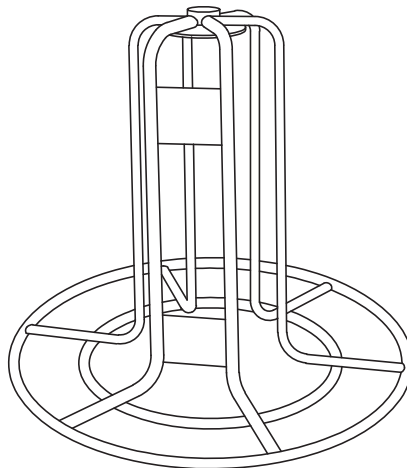

FIGURE 1
- PLACE AN EMPTY METAL STEM (SEE FIGURE 1) NEAR THE REEL-LESS PACKAGE TO BE LOADED.